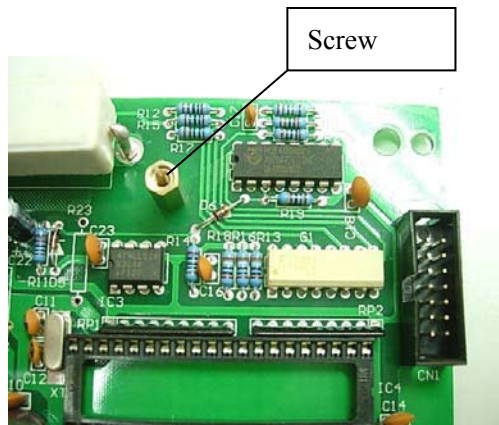

Fig.3
2. Fix the screw on the PCB.(Fig. 3)